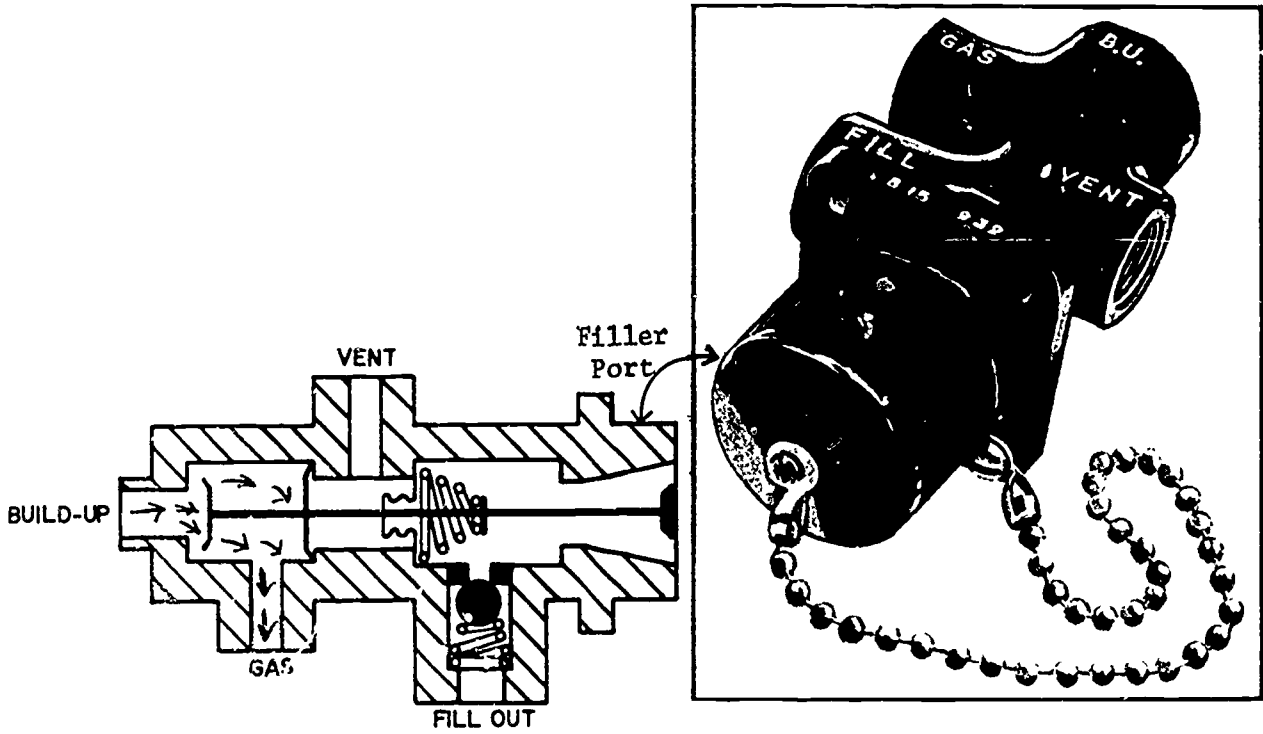

Figure 6.
101- The combination fill, build-up, and vent valve shown (figure 6) is a dual function valve. On older oxygen systems, it would be divided into two separate valves (1) the fill valve and (2) the build-up and vent valve. The fill portion of the combination valve has a coupling for the filler nozzle of a LOX servicing cart to connect to. As shown in (figure 6) the valve is normally in the build-up position. The build-up port is connected to the pressure opening-pressure closing valve. Gaseous oxygen flows from the pressure opening-pressure closing valve through the build-up port into the combination valve. It then flows out of the gas port, back to the top of the container. The fill out port on the valve is connected to the bottom of the container. The ball check valve in this port prevents a reverse flow of liquid (from the bottom of the container) through the valve. A dust cap attached to a chain is used on the filler port of this valve. This cap protects the seal on the filler port from damage and contamination.